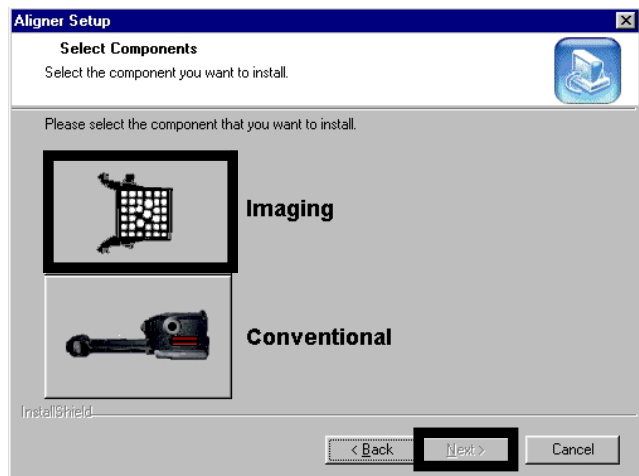

Figure 3-10
8. The alignment CD is not sensor or brand specific, the operator must choose which type of alignment software is to be loaded. Click on the icon button to choose the alignment software that you would like to install and click **<NEXT>** to proceed. (Figure 3-10)